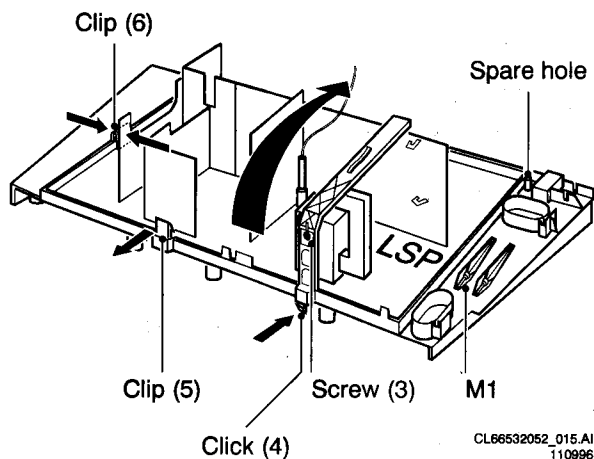

Figure 4.3
LSP component side (Figure 4.3)
1. Break the service pin (marked M1 - see Figure 4.3) from its position at the right hand side of the bottom plate.